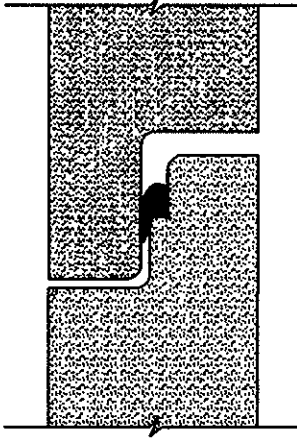

Figure 2
- Gently push the joint home. Note that every section will not home exactly the same. (See Figure 2)